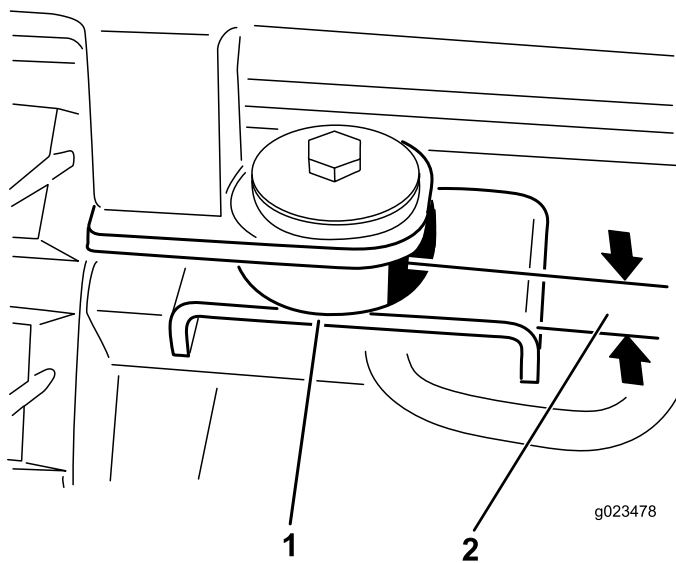

Figure 25
12. At the rear-mounting points, secure the cab to the machine with a bolt (1/2 x 3 inch), steel washer (1/2 x 2-1/2 inch), rubber washer (1/2 x 2-1/2 inches) and nut (1/2 inch) as shown in Figure 25.